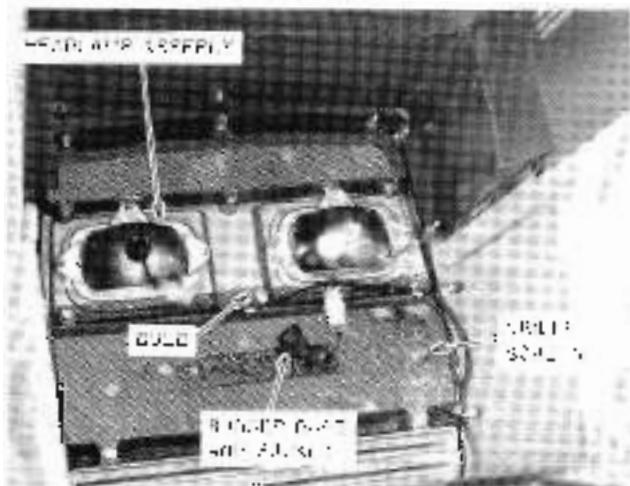

Figure 62 - Headlamp Assembly
3. Bend rubber boot back on the lamp socket. Figure 62